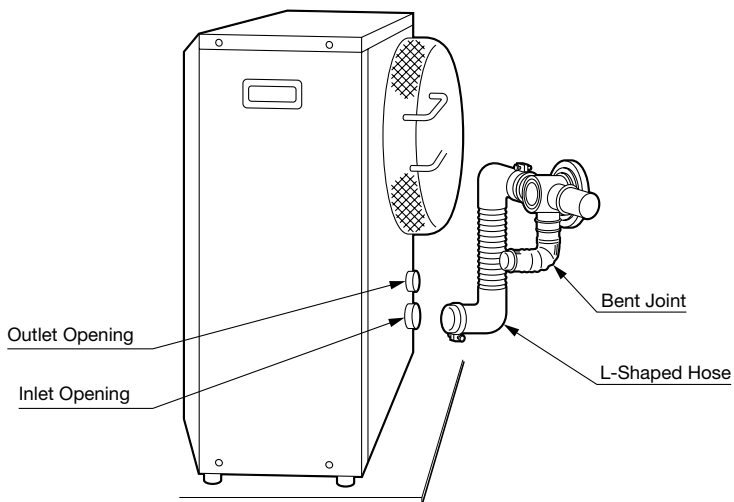

Fig. 11
- Move the heater into position. Connect the bent joint to the exhaust outlet opening (upper opening) and attach the L-shaped hose to the intake inlet opening. Make sure all connections are tight (See Fig. 11).